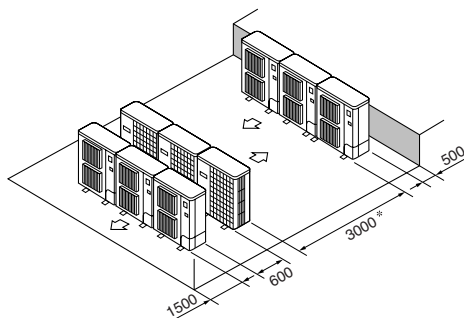

Fig. 3-16
- ⑥ Multiple parallel unit arrangement (Fig. 3-16)